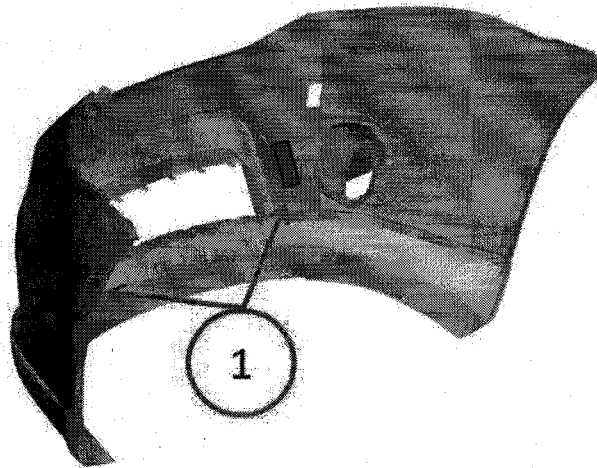

Fig. 4 Front Fascia
6. Identify attachment location for left and right sensor brackets on the back side of the fascia. They are located left and right of the grill(Fig. 4).